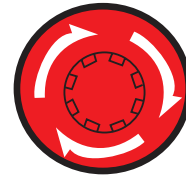

Figure 40. Emergency Stop Switch
1. If equipped (optional), press the **Emergency Stop switch** (Figure 40) to stop the engine in the event of an emergency.